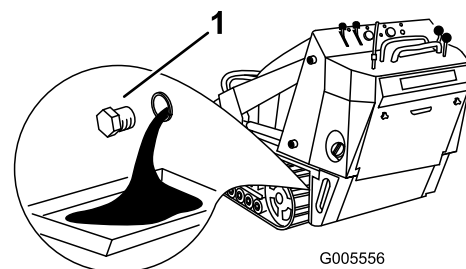

Figure 39
4. Remove the drain plug (Figure 39).